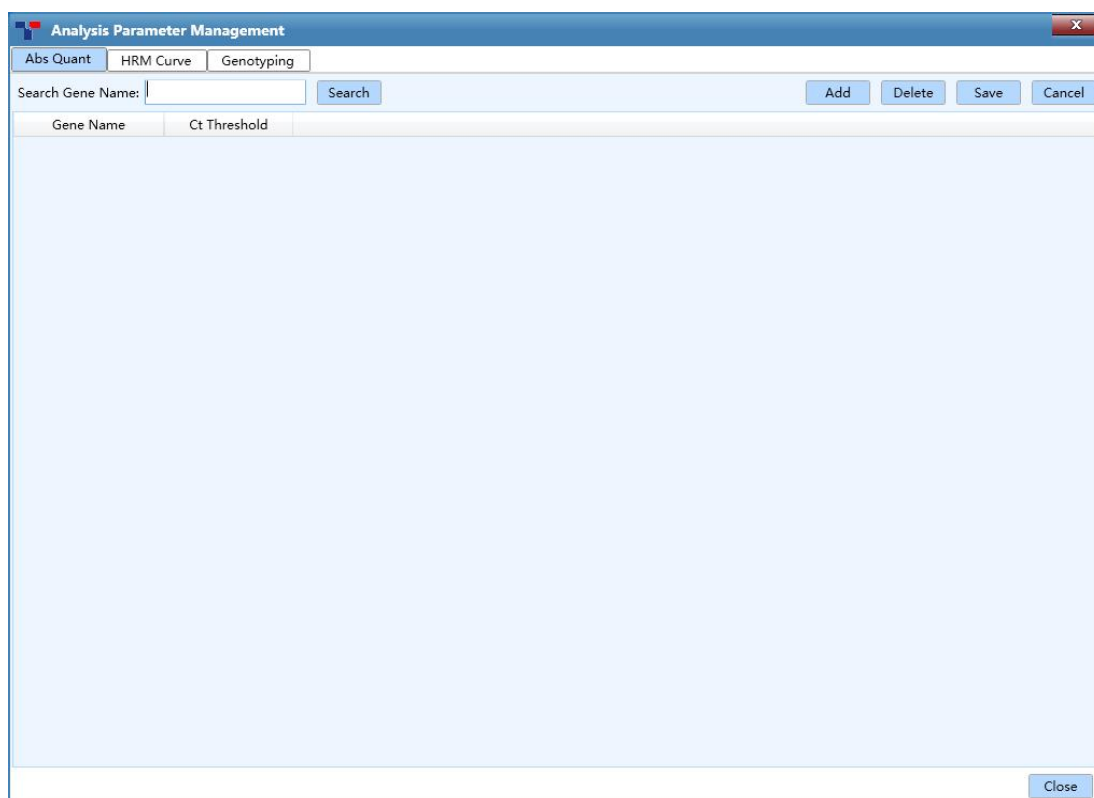

Figure D-3.8a. Parameter Management Interface - Abs Quant Tab
- ▶ **Abs Quant** tab: the analysis parameter management interface displays the **Abs Quant** tab by default, as shown in figure D-3.8a. User can manage the analysis parameters of specific or multiple genes for absolute quantitative experimental results analysis.